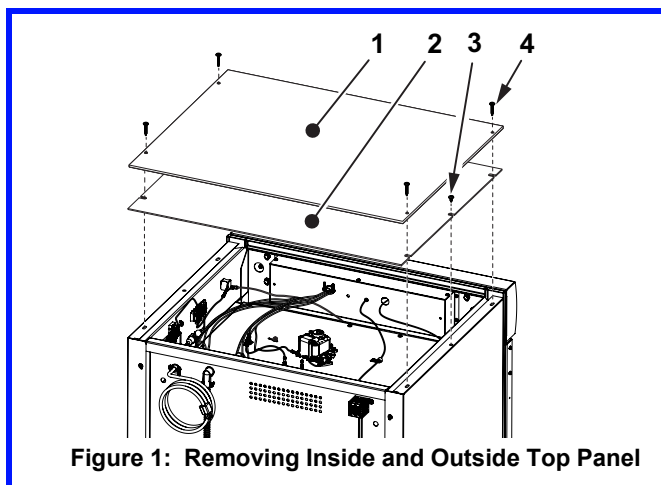

Figure 1: Removing Inside and Outside Top Panel
2. The Outside and Inside Top Panels must be removed first. See Figure 1.
3. Remove four 8 X 1-5/8" self-tapping screws from Outside Top Panel. Remove Outside Top Panel and set aside. See Figure 1.
4. Remove two 8 X 1/2" self-tapping screws from Inside Top Panel. Remove Inside Top Panel and set aside. See Figure 1.